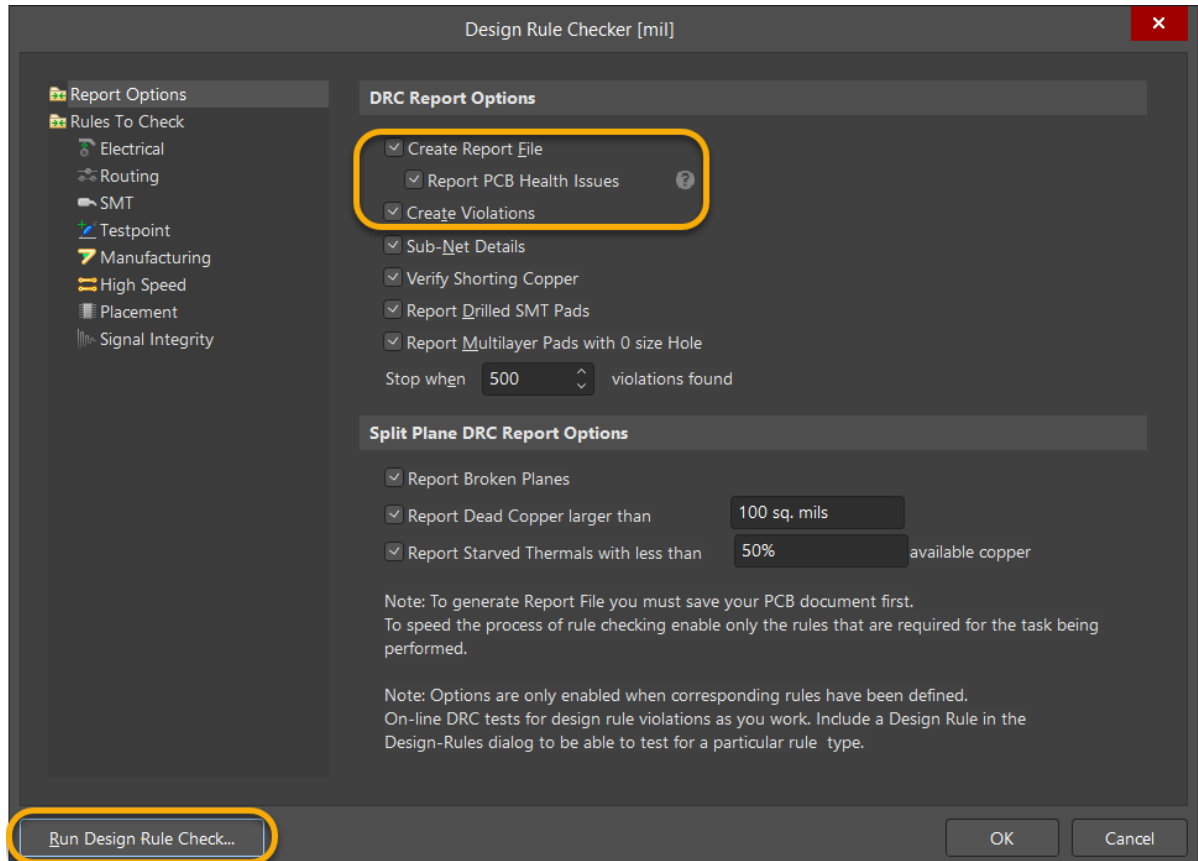

Figure 3. Design Rule Checker
- b) Click the **Run Design Rule Check...** button as shown in Figure 3.